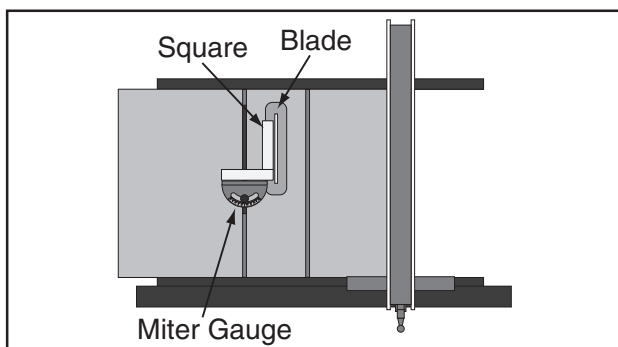

Figure 144. Checking 90° stop on miter gauge.
4. Place the 90° square evenly against the face of the miter gauge and the blade, as shown in **Figure 144**.